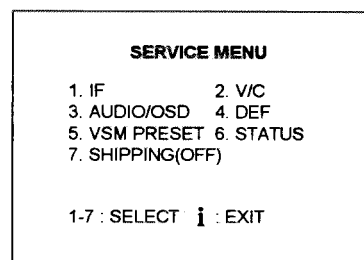
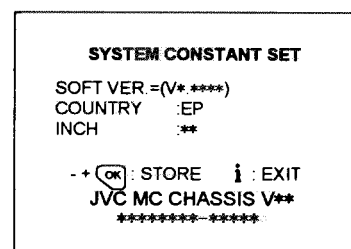

Fig.1
Fig.2
<p>(4) Check and set SYSTEM CONSTANT SET:</p> <ol style="list-style-type: none"> 1) Press the INFORMATION key and the MUTING key of the REMOTE CONTROL UNIT simultaneously. 2) The SERVICE MENU screen of Fig. 1 will be displayed. 3) While the SERVICE MENU is displayed, press the INFORMATION key and MUTING key simultaneously, and the SYSTEM CONSTANT SET screen of Fig. 2 will be displayed. 4) Check the setting values of the SYSTEM CONSTANT SET of Table 1. If the value is different, select the setting item with the FUNCTION UP/DOWN key, and set the correct value with the FUNCTION +/- key. 5) Press the MENU key to memorize the setting value. 6) Press the INFORMATION key twice, and return to the normal screen.